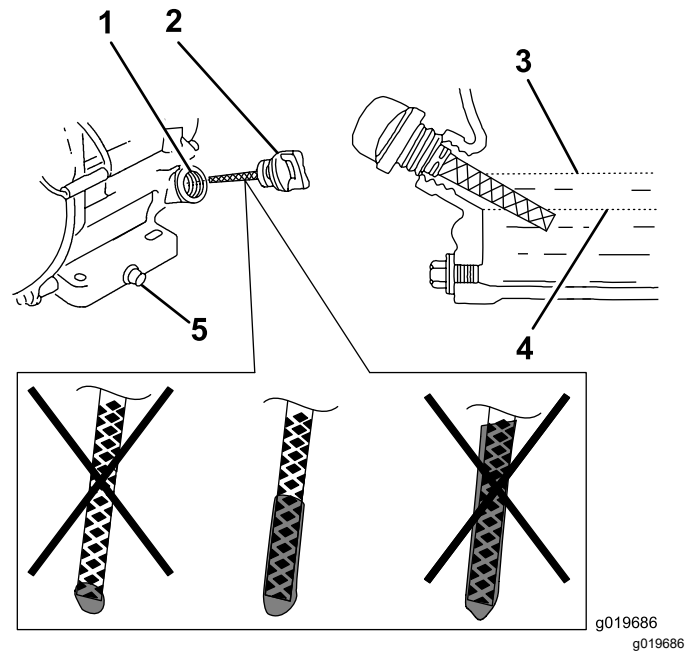

Figure 11
6. Remove the dipstick and check the engine-oil level (Figure 11).